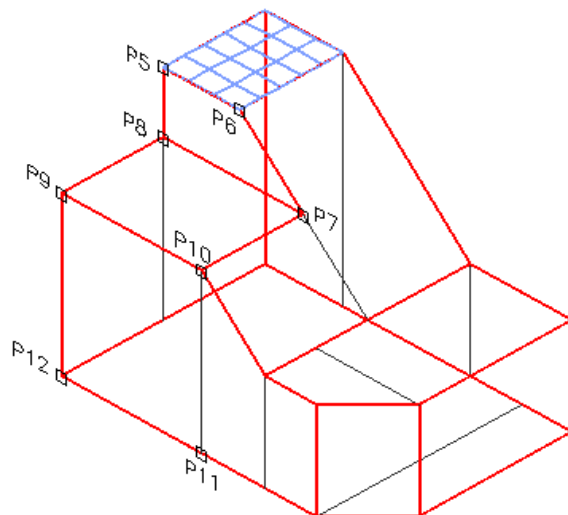

Figure Step 15A
Step 15 Using the AI-MESH command shown below, insert two additional surfaces. See Figure Step 15A and 15B.